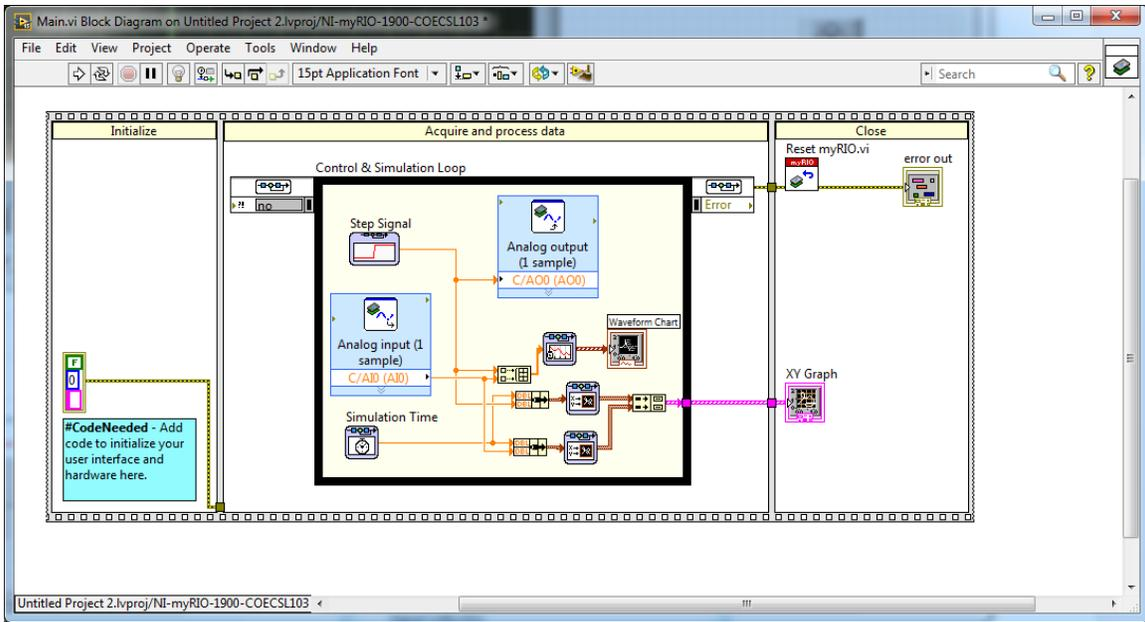

Figure 4 - Block Diagram for Step Response Program
- You will be building a program in LabVIEW to generate a step response input to the motor and record the voltage data from the tachometer. The final Block Diagram and Front Panel are provided in Figures 4 and 5, respectively. Most of the blocks have already been created for you. You will only need to add the ones listed in red.
- Wire the blocks up to match Figure 4.